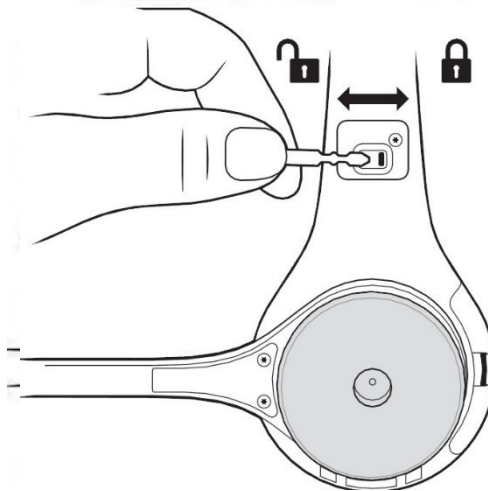

Figure 9.
1. On the opposite side of the Headset Carrier, ensure that the Control Pod Locking Mechanism is in the unlocked position by sliding it all the way to the left. A small flat head screwdriver or other similar tool can be used to slide the locking mechanism if needed. See Figure 9 below.
4. Slide locking mechanism on opposite side of carrier to the locked position. See Figure 9.